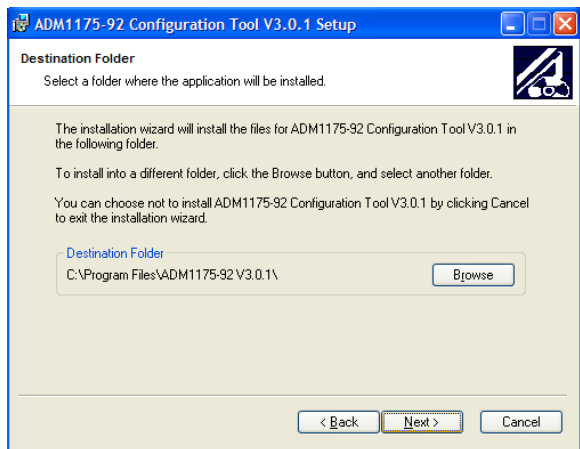

Figure 4. Evaluation Software—Choosing a Destination Folder
4. Click **Next** to display the **Destination Folder** window (see Figure 4).